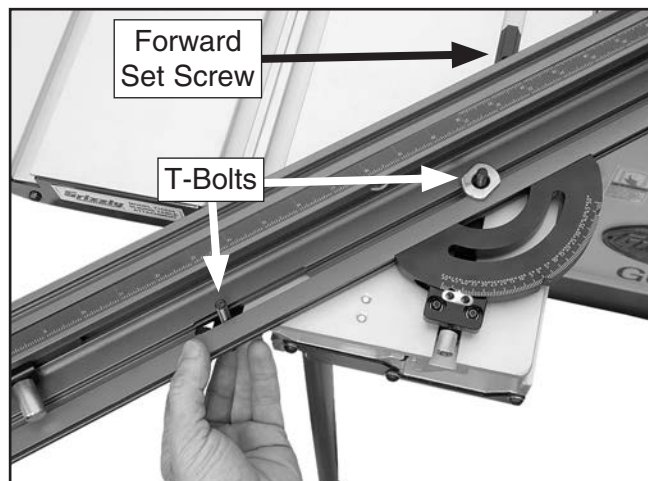

Figure 13. Inserting fence T-bolts into the sliding table T-slots.
18. Slide the miter gauge bar into the sliding table miter gauge slot, as shown in **Figure 13**.
19. While holding the crosscut fence in position, rotate it slightly so that you can insert the T-bolt you removed from the handle in **Step 17** into the fence slot and into the sliding table miter gauge slot, as shown in **Figure 13**.
21. Position the fence along the table, then tighten the forward miter gauge bar set screw (see **Figure 13**) and the miter gauge lock knob to secure the fence in place.